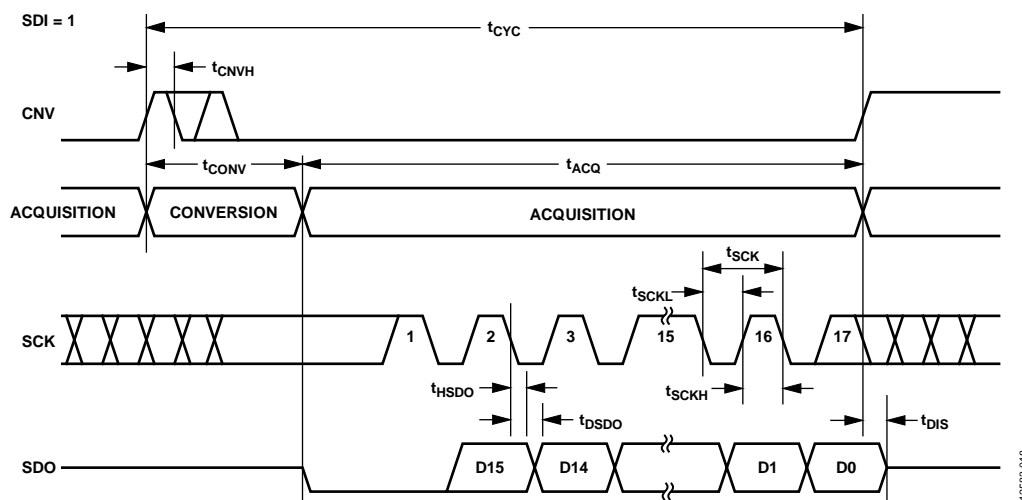
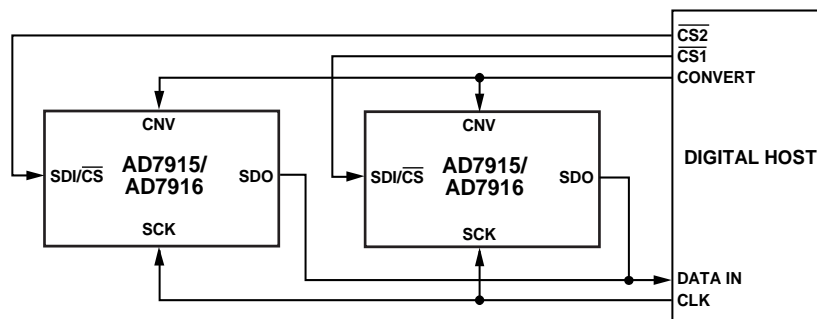
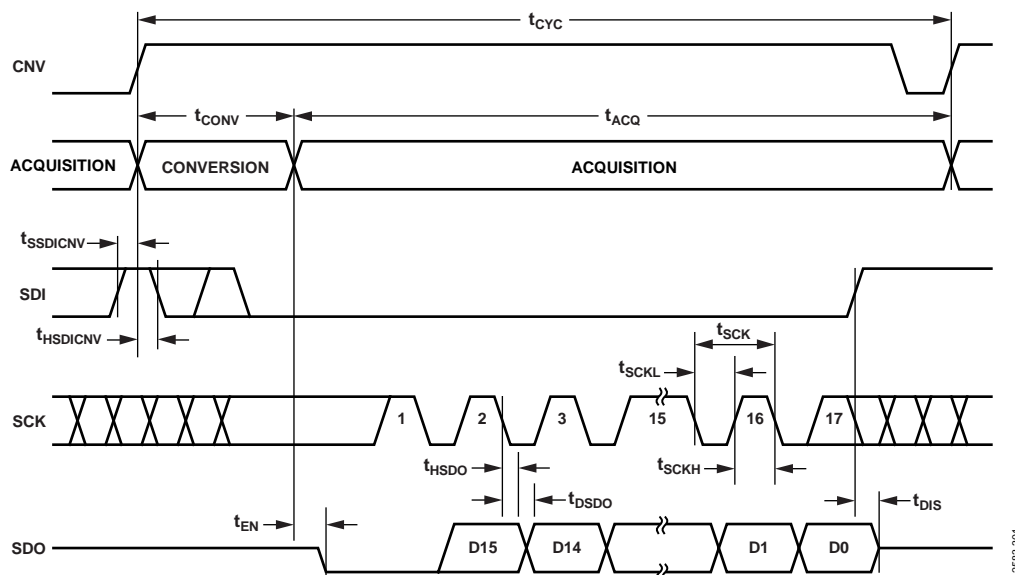
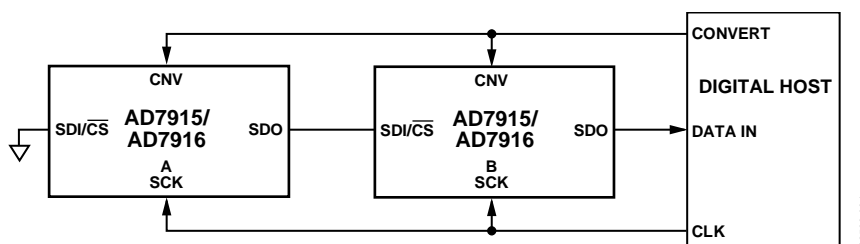

Figure 37. 3-Wire  $\overline{\text{CS}}$  Mode with Busy Indicator Serial Interface Timing (SDI High)
Figure 38.  $\overline{\text{CS}}$  Mode Without Busy Indicator, 4-Wire Connection Diagram
Figure 41. 4-Wire  $\overline{\text{CS}}$  Mode with Busy Indicator Serial Interface Timing
Figure 42. Chain Mode Without Busy Indicator Connection Diagram
- in  $\overline{\text{CS}}$  mode if CNV or SDI is low when the ADC conversion ends (see Figure 38 and Figure 42).
The connection diagram is shown in Figure 37, and the corresponding timing is given in Figure 38.
The connection diagram is shown in Figure 41, and the corresponding timing is given in Figure 42.